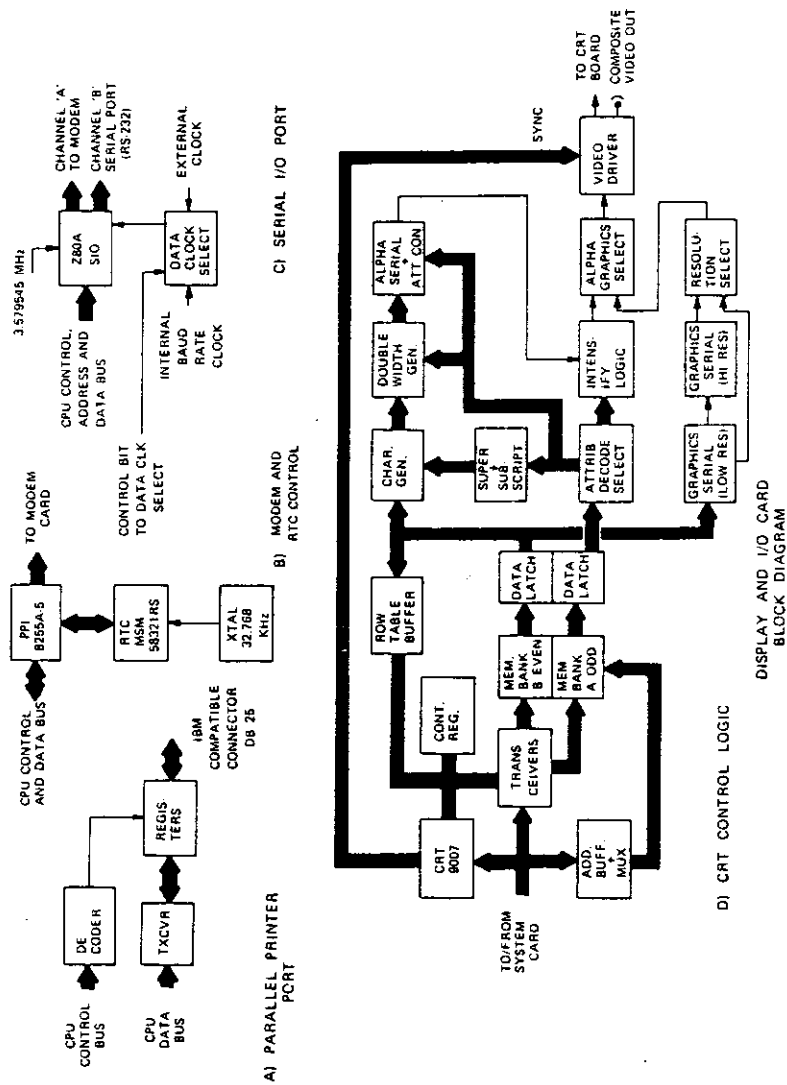

Fig. 2-3 - Display & I/O Board Block Diagram
- Figure 2-3 Display & I/O Board Block Diagram
### Display and I/O Board (Fig. 2-3)